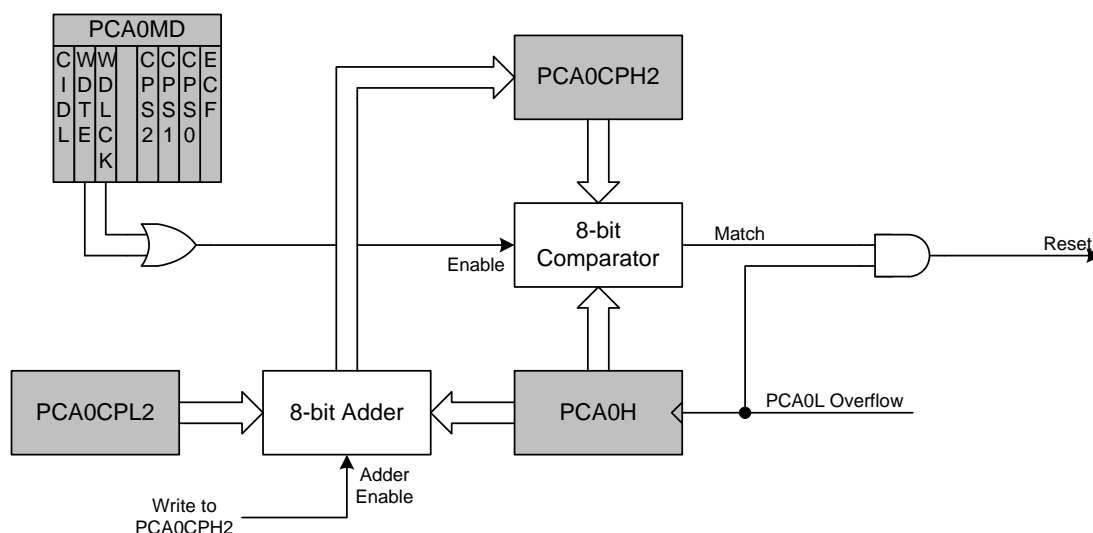

Figure 29.11. PCA Module 2 with Watchdog Timer Enabled
While the WDT is enabled, writes to the CR bit will not change the PCA counter state; the counter will run until the WDT is disabled. The PCA counter run control bit (CR) will read zero if the WDT is enabled but user software has not enabled the PCA counter. If a match occurs between PCA0CPH2 and PCA0H while the WDT is enabled, a reset will be generated. To prevent a WDT reset, the WDT may be updated with a write of any value to PCA0CPH2. Upon a PCA0CPH2 write, PCA0H plus the offset held in PCA0CPL2 is loaded into PCA0CPH2 (See Figure 29.11).